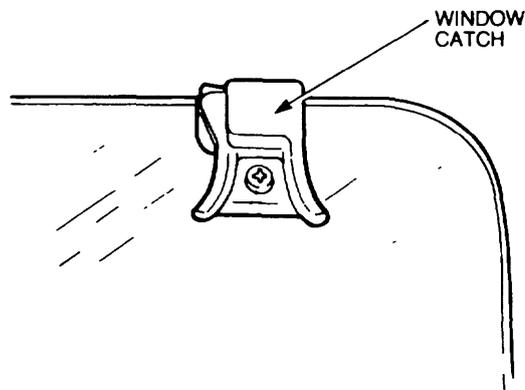

Figure 231 Window Catch Removal
- l.** Remove the screw securing the window catch to the sliding window (Figure 231) then remove the catch.